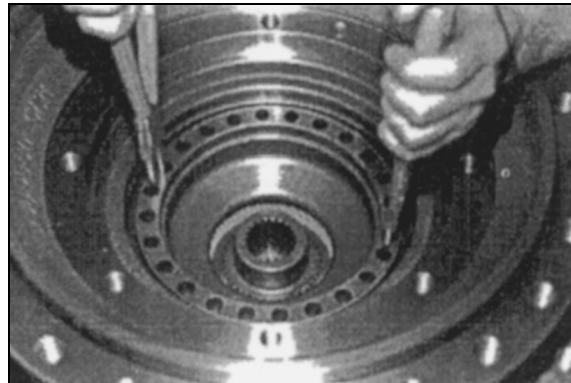

Figure 72
10. Blow air into brake port hole and remove brake piston using pliers. Figure 72.